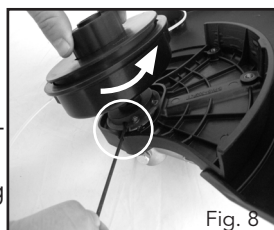

Fig. 8
1. Align the hole in the inner flange (14) with the hole in the gear box housing and insert assembly pin (18). While holding the assembly pin (18) screw the spool set (13) onto shaft, turning counter clockwise (Fig. 8).